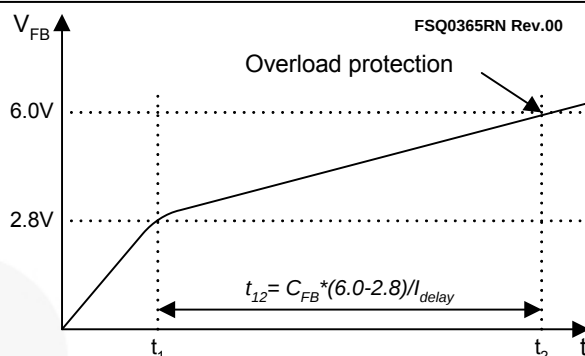

Figure 24. Overload Protection
4.1 Overload Protection (OLP): Overload is defined as the load current exceeding its normal level due to an unexpected abnormal event. In this situation, the protection circuit should trigger to protect the SMPS. However, even when the SMPS is in the normal operation, the overload protection circuit can be triggered during load transition. To avoid this undesired operation, the overload protection circuit is designed to trigger only after a specified time to determine whether it is a transient situation or a true overload situation. Because of the pulse-by-pulse current limit capability, the maximum peak current through the SenseFET is limited, and therefore the maximum input power is restricted with a given input voltage. If the output consumes more than this maximum power, the output voltage (V_O) decreases below the set voltage. This reduces the current through the opto-coupler LED, which also reduces the opto-coupler transistor current, thus increasing the feedback voltage (V_{FB}). If V_{FB} exceeds 2.8V, D1 is blocked and the 5μA current source starts to charge CB slowly up to V_{CC} . In this condition, V_{FB} continues increasing until it reaches 6V, when the switching operation is terminated, as shown in Figure 24. The delay for shutdown is the time required to charge CB from 2.8V to 6V with 5μA. A 20 ~ 50ms delay is typical for most applications.